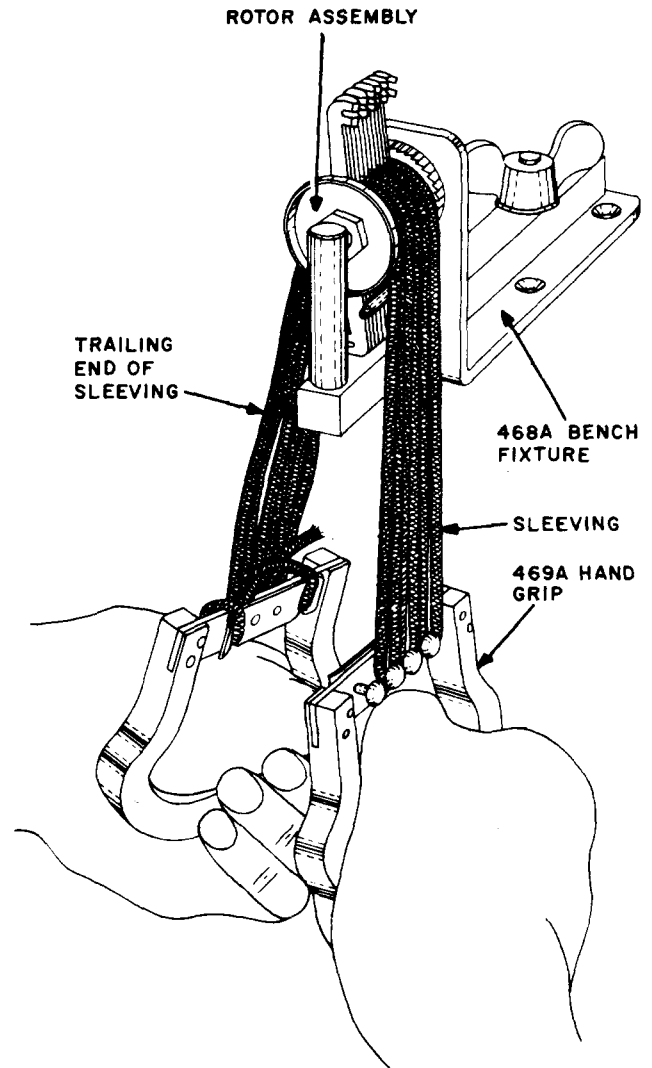

Fig. 11—Method of Cleaning Rotor Assembly
3.25 In cleaning, hold the grip which is being pushed so that the strings cover as much of the hub on that side as possible. At the same time have the trailing end slack, as shown in Fig. 11. A downward movement of the right hand followed by a downward movement of the left hand is to be considered one stroke. Each movement shall be as long as the sleeving conveniently permits.
3.30 In treating, hold the grip which is being pushed so that the strings cover as much of the hub on that side as possible. At the same time have the trailing end slack, as shown in Fig. 11. A downward movement of the right hand followed by a downward movement of the left hand is to be considered one stroke. Each movement shall be as long as the sleeving conveniently permits.